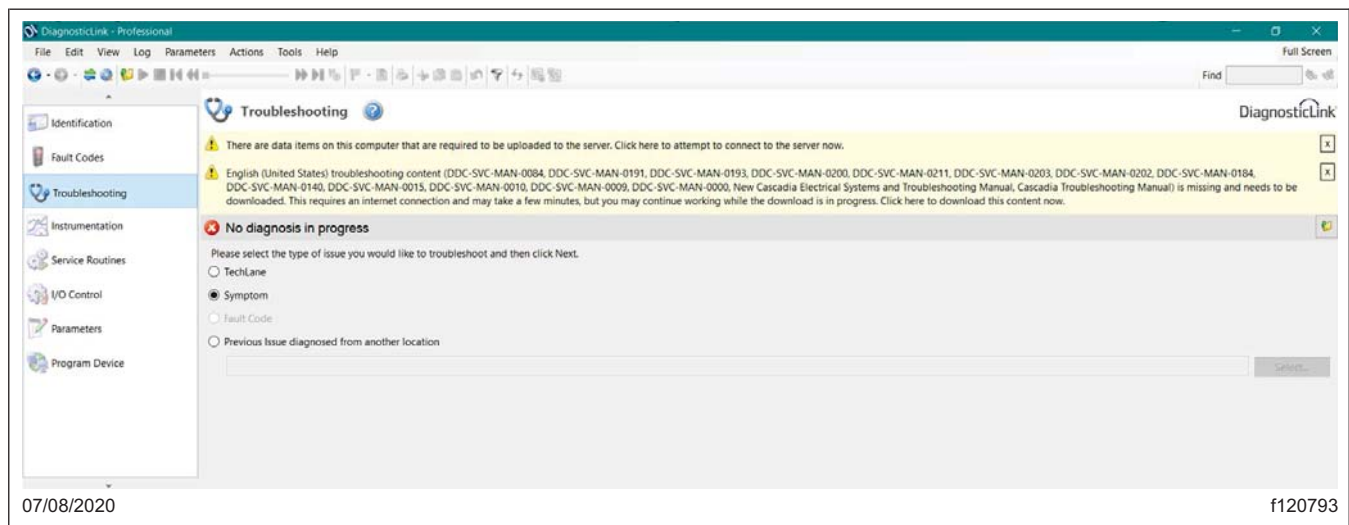

Fig. 1, Click the Troubleshooting Tab
4. Using DiagnosticLink version 8.12, or newer, access the troubleshooting tab and select "Symptom." Click the Next button, located on the bottom right side of the screen. See Fig. 1.